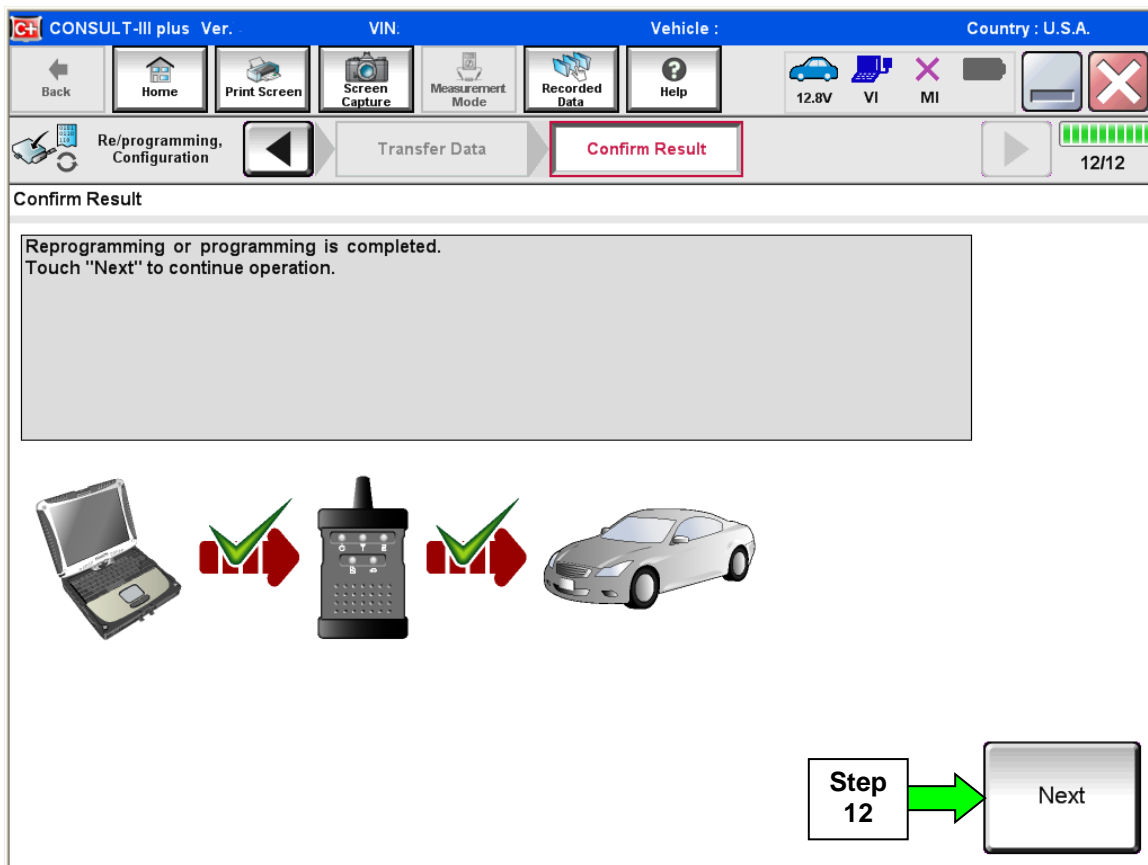

Figure 5
10. When the screen in Figure 5 displays, reprogramming is complete.
**NOTE:** If the screen in Figure 5 does not display (reprogramming does not complete), refer to the information on page 7.